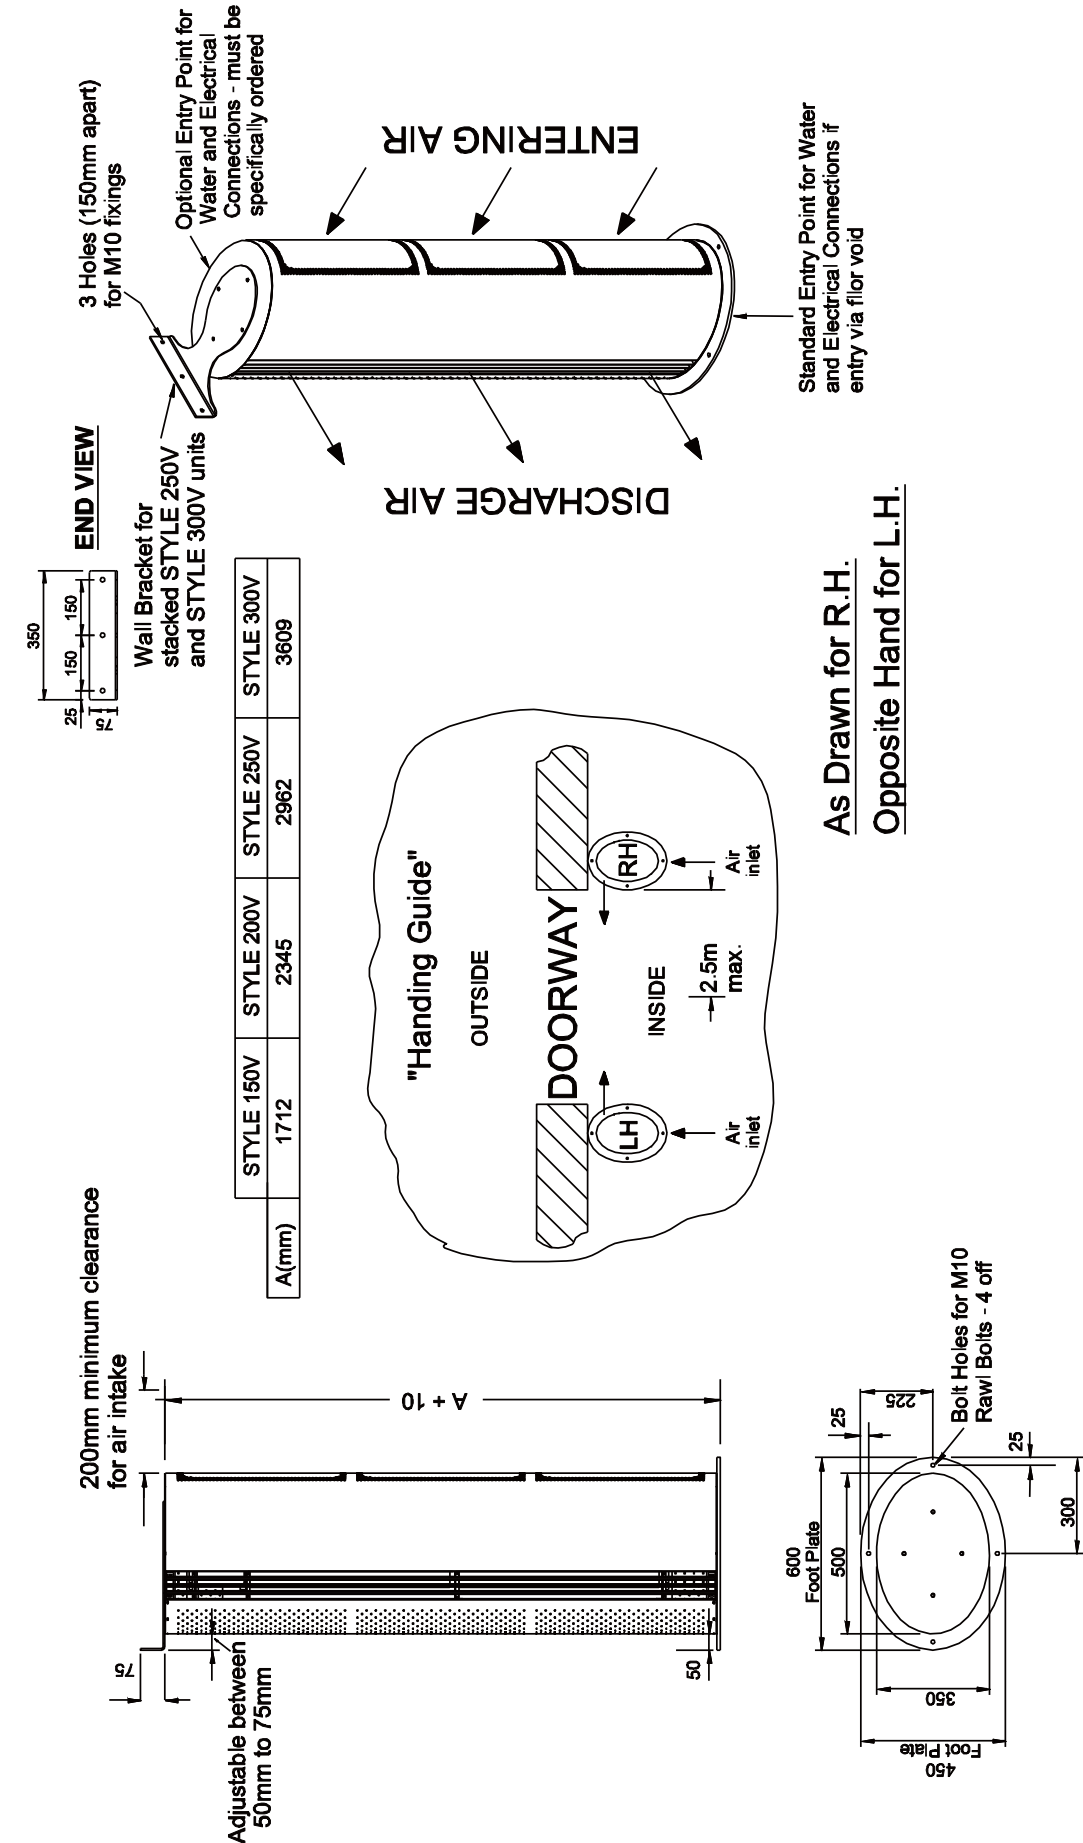

Figure 6 Vertical Mounted Style₂ Air Curtain
Prior to commencing any vertical installation it is essential to ensure the correct handing has been selected, i.e. Left Hand (LH) or Right Hand (RH) - . see “Handing Guide” in Figure 6. Maximum doorway width = 2.5m per air curtain.
For maximum effectiveness, it is essential to ensure the height of the air curtain is slightly higher than the opening height of the door. Obstructions such as door opening devices, structural beams etc will reduce the efficiency of the air curtain. There must be at least 200mm clearance at the air inlet for air to enter the unit, see Figure 6.
Before installing the Style₂ air curtain obtain four suitable fixing bolts, taking into account floor type and unit weight (see Table 1)*. Rawlplug[®] M10 Projecting Rawlbolt[®] 44356 type may be suitable. For dimensional details refer to the general assembly drawing, Figure 6.
Using fixing kit components supplied, the vertical stack frames are joined together using four M8 x 35mm hexagonal bolts and M8 nuts (see picture). Feed each hexagonal bolt from the top unit and fasten with M8 nuts. All stacked units must be secured with a wall bracket at the top of the stack, refer to Figure 6.